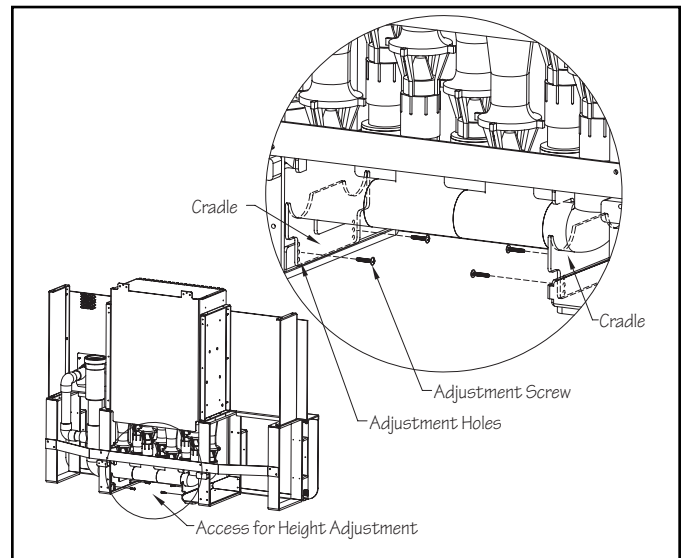

Fig. 55.3
Locate the (2) cradles at the rear of the propulsion system housing towards the bottom of the unit. There are (2) adjustment screws that are in the center adjustment holes of each cradle. Remove each adjustment screw. The plumbing assembly can be lowered by utilizing the top adjustment holes. The plumbing assembly can be raised by utilizing the lower adjustment holes. Re-install the screws in the appropriate adjustment holes. Fig. 55.3.